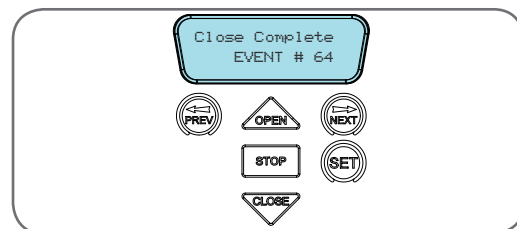

Fig D.5
The opener keeps a record of the last 64 events that have taken place. The events include the type of drive cycles executed, obstruction detection, various faults, power failures etc. When this tool is selected, the screen displays the last event that occurred (**Fig. D.5**). Press NEXT or PREV to view each event. The "EVENT#" field shows the sequence of the events, with (1) being the first and (64) being the last. The example shows that the last event was a close cycle which succeeded in closing the door. When finished viewing the events, press STOP to exit.